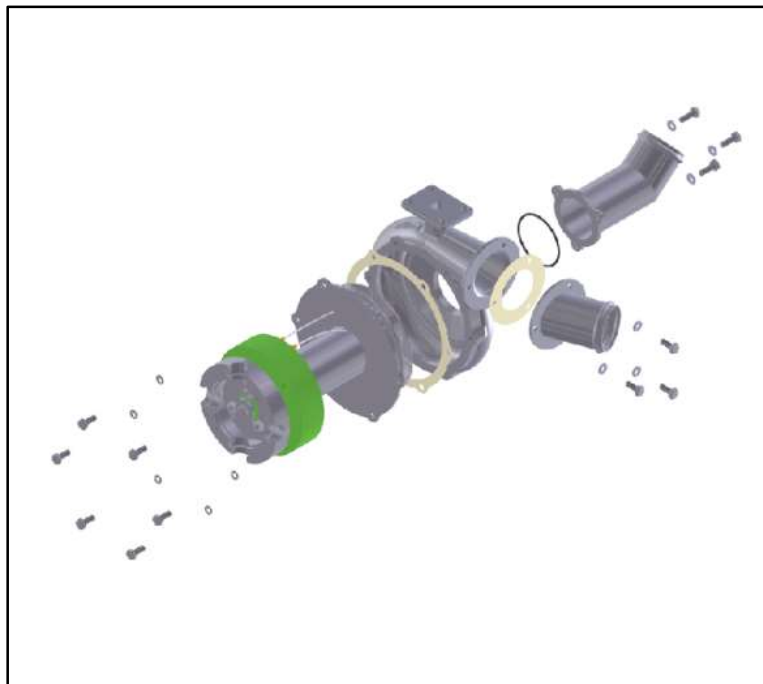

Figure 28: inlet and outlet attachment to the impeller housing.
- j) Secure the impeller to the bearing housing, observing the position of the impeller housing outlet. Apply silicone to both parts before attaching the gasket, use teflon tape on the $\frac{1}{4}$ " x $\frac{1}{2}$ " screws and secure them with lock washers (figure 28).
- k) To fasten the impeller housing inlet, put silicone through the holes of the inlet flange, insert the O'Ring into its housing and screw the inlet into the impeller housing (figure 34). Remember to put thread seal tape in the $\frac{1}{4}$ " x $\frac{5}{8}$ " screws and to use lock washers (figure 28).